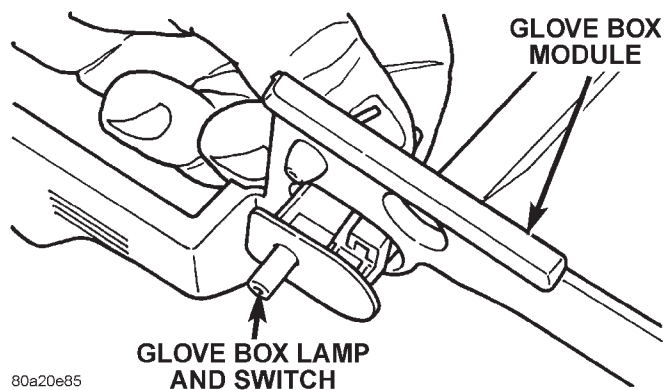

Fig. 13 Glove Box Lamp and Switch Remove/Install
(1) Remove the glove box module as described in this group.
(2) From the back side of the glove box module, squeeze the retaining tabs on the glove box lamp and switch housing together and push the unit out the front of the module through the mounting hole (Fig. 13).
(3) To install the glove box lamp and switch unit, insert the unit through the mounting hole from the front of the glove box module and push in on the unit firmly, until the retaining tabs snap into place.
(4) Reverse the remaining removal procedures to complete the installation.